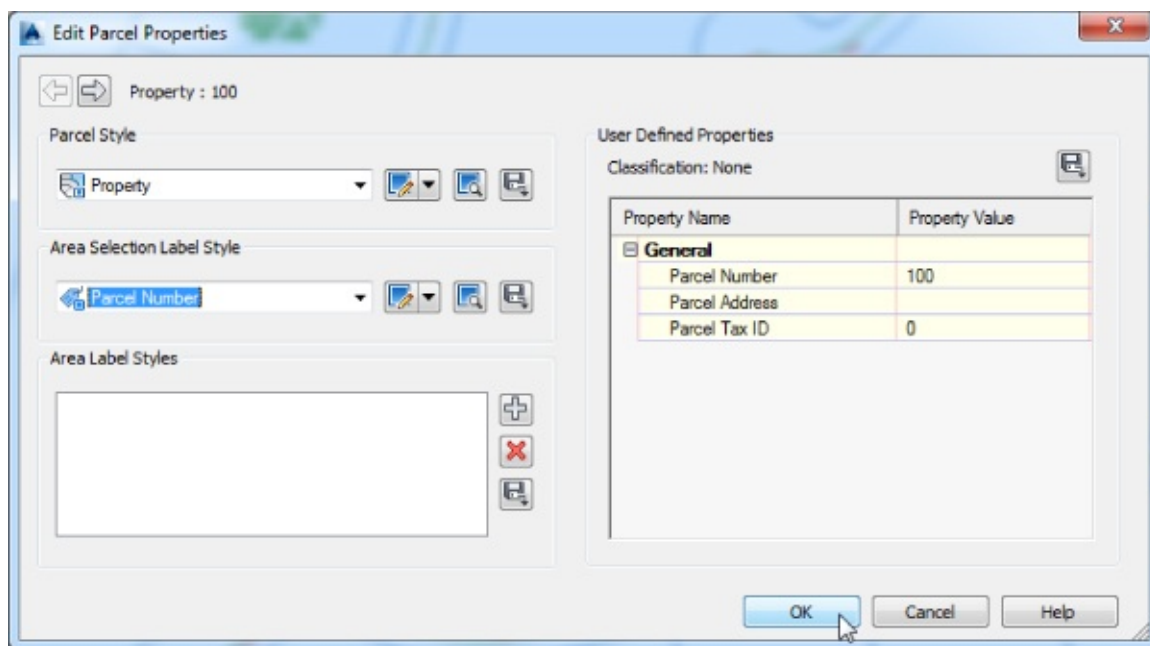

Figure 5.56 The Edit Parcel Properties dialog
6. In the Area Selection Label Style portion of the Edit Parcel Properties dialog, use the drop-down menu to select the Parcel Number area label style, as shown in Figure 5.56.
You can also use the Edit Parcel Properties dialog, shown earlier in Figure 5.56 in the section "Labeling Parcel Areas," to add a second label.